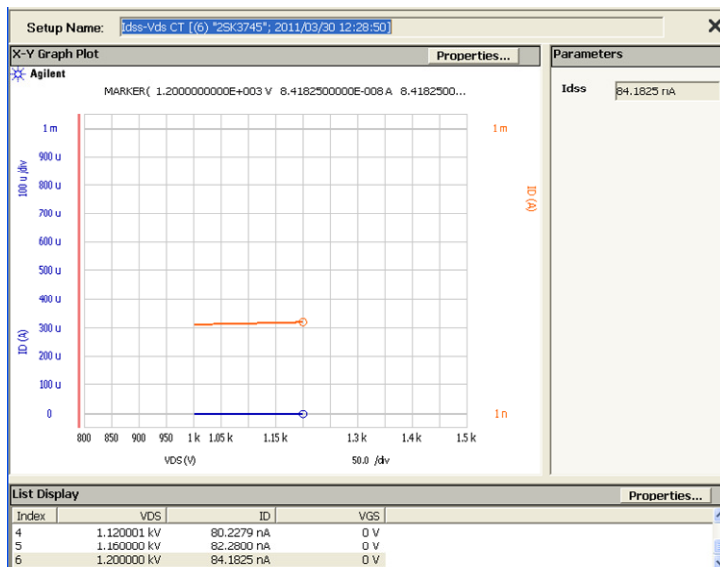

Figure 3-61. ID-VGS curve and the extracted Idss.
Step 21. You can see the ID-VDS curve and the extracted Idss in figure 3-61.